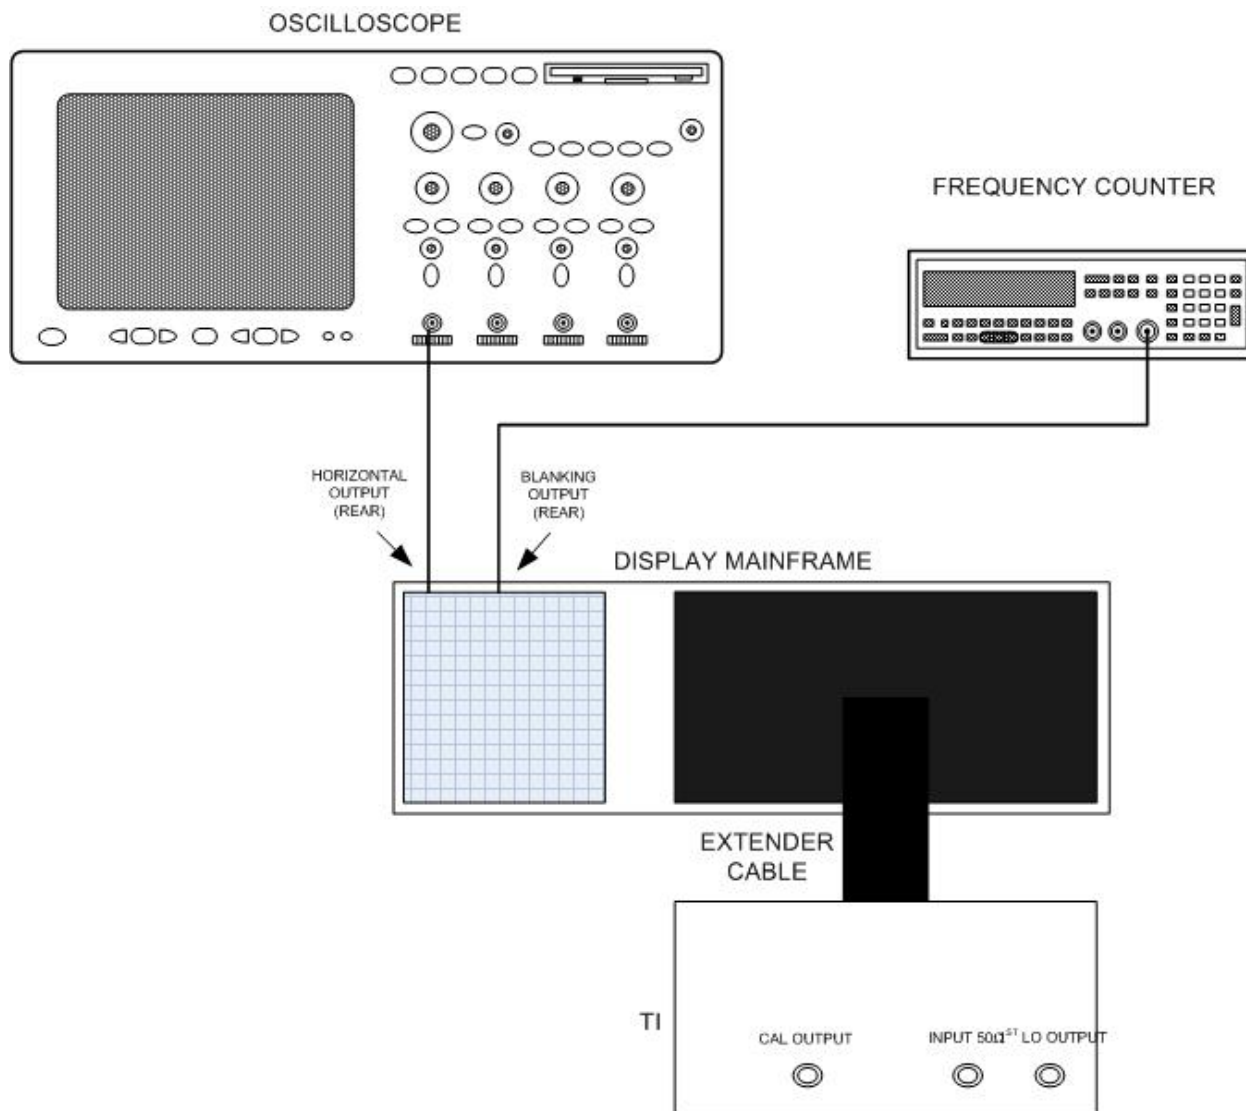

Figure 4. Sweep time - equipment setup.
- (1) Connect equipment as shown in figure 4.